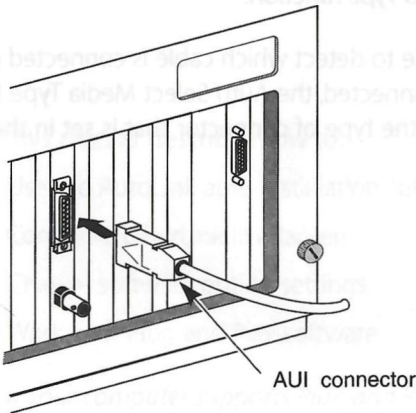

Figure 2-3 Connecting the AUI Cable
- 2 Connect the AUI cable or transceiver to the AUI connector on the adapter, as shown in Figure 2-3.